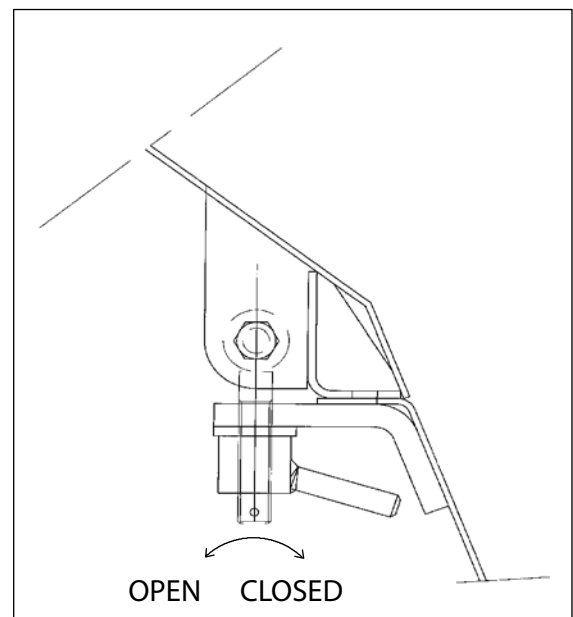

Fig. 7. Locking the feed chute in the operating position
5. Lock the chute in the operating position. Fig. 7.